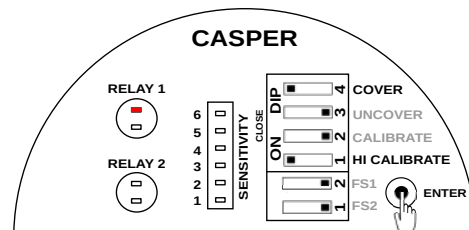

Figure 12: Setting Cover Delay for Relay 2
- Press ENTER and keep it pressed as shown in Figure 12. The STATUS RED LED of Relay 1 will start blinking. Count the number of blinks. After setting the value release the ENTER key.